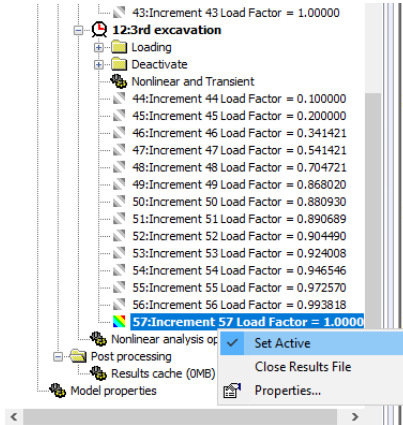

Figure 66: Setting the active results
- In the Analyses treeview, in the loadcase named **3rd excavation**, right-click on the final increment having a load factor of **1.0** and then click on **Set Active** (figure 66).